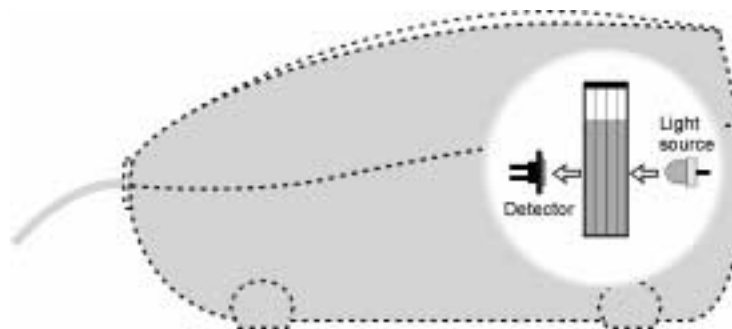

Figure 1
The primary objective of this experiment is to determine the concentration of an unknown copper (II) sulfate solution. You will use a Colorimeter (a side view is shown in Figure 1) to measure the concentration of each solution. In this experiment, red light from the LED light source will pass through the solution and strike a photocell. A higher concentration of the colored solution absorbs more light (and transmits less) than a solution of lower concentration. The Colorimeter monitors the light received by the photocell as percent transmittance.